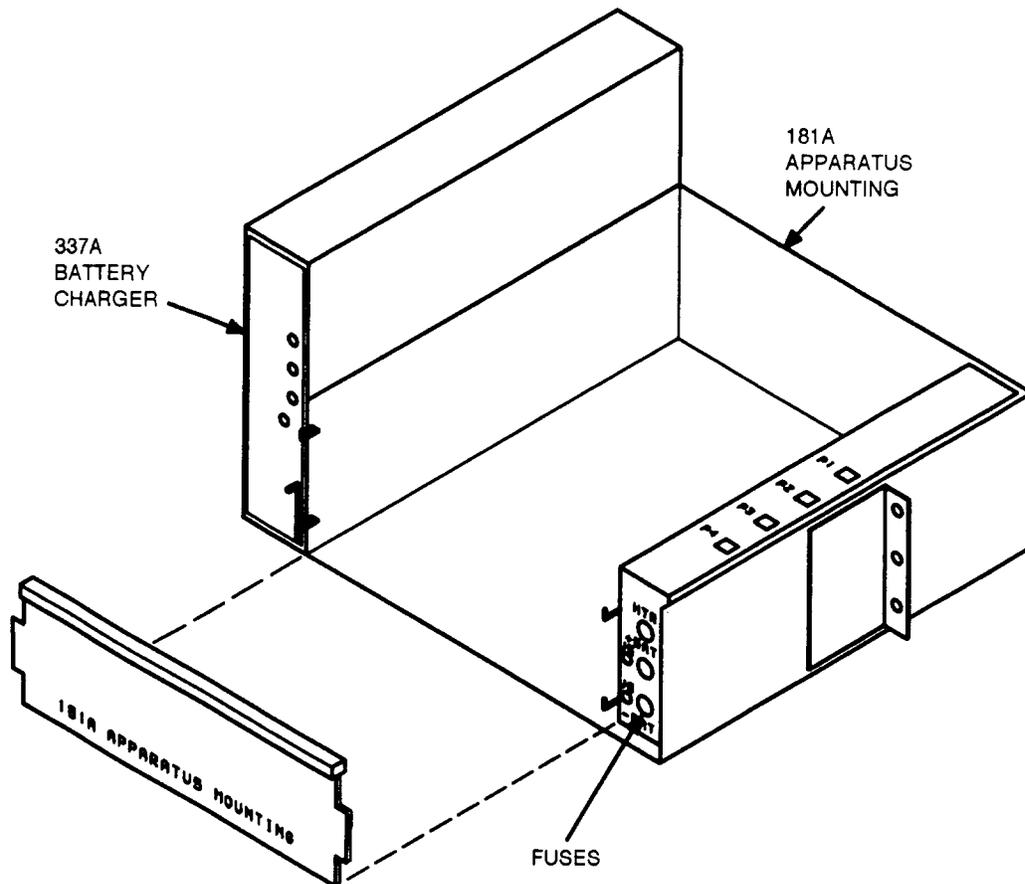

Figure 3 — Battery Shelf
Into the slot located on left side of battery shelf (Figure 3).
- Third 337A into the slot located on left side of battery shelf (Figure 3).